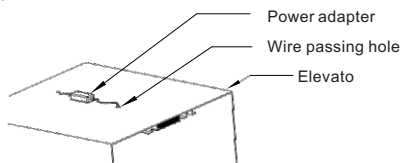
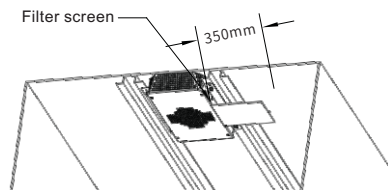

Figure 6.11 Schematic diagram of top routing of exposed and concealed elevator
Figure 6.12 Schematic diagram of installation and maintenance space for concealed elevator
- Please reserve the routing and operation space at the top of the elevator, and it is recommended that the diameter of the wire passing hole should not be less than 20mm; See fig. 6.11. For convenience of maintenance, the side space of the filter screen should be at least 350mm, and the exposed and concealed installation is shown in Figures 6.12 and 6.13.